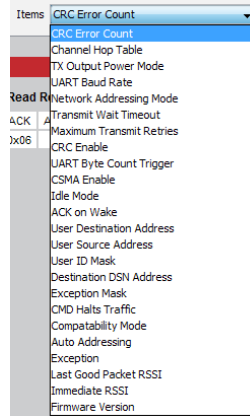

Figure 17: The Master Development System Software Command Set Tab Items Menu
4. The Items drop down menu displays all of the items that are available for the active module (Figure 17). Selecting one of the items from this menu automatically fills in the Command box. The values can be adjusted by typing in the box.